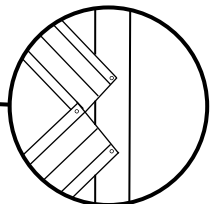

fig.6
- Ensure that the top and bottom ends of the braces are under the door flashings as shown in fig.5 and opposite ends of the braces overlap in the middle as shown in fig.6.